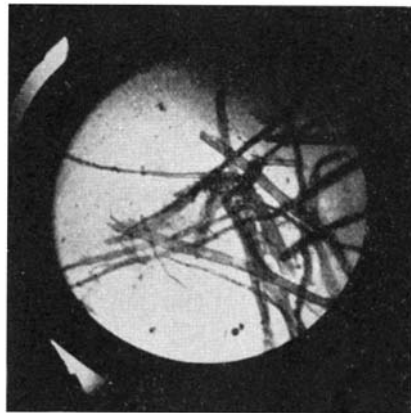
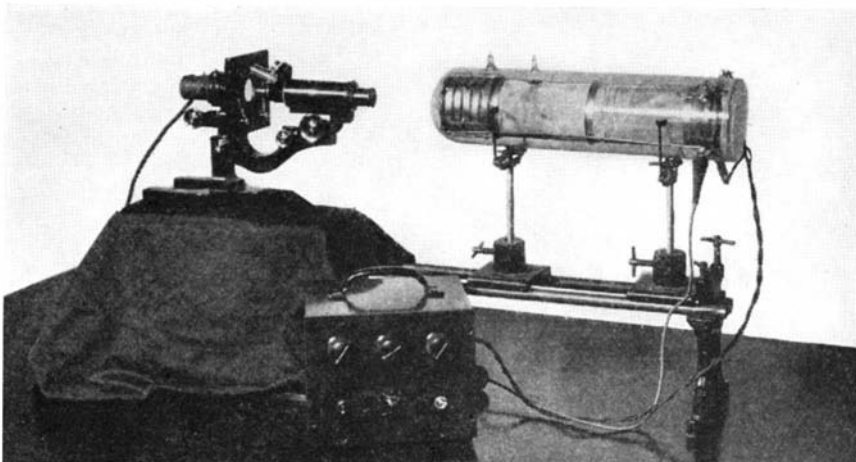

Figure 8: A micro-specimen as seen with the set-up illustrated below
Figure 7: A microscope set-up for infra-red microscopy
**A**NOTHER use is in connection with infra-red microscopy. Figure 7 shows an image tube and microscope arranged for infra-red work. The visible image of a micro-specimen as produced on the fluorescent screen is shown in Figure 8.